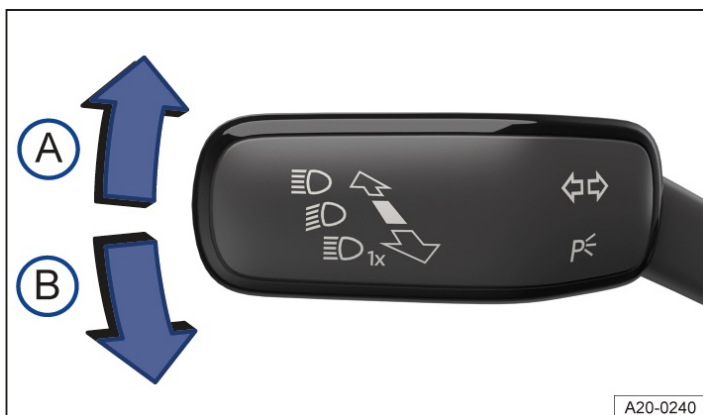

Fig. 1 On the left-hand side of the steering column: turn signal and main beam lever.
2. Move the turn signal and main beam lever from the centre position to the desired position → Fig. 1.